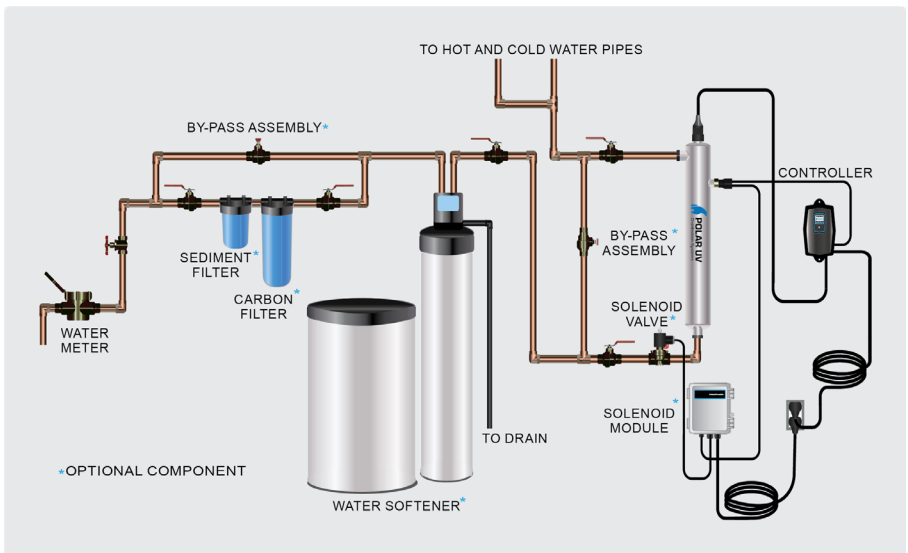

Figure 1. Recommended POE Installation Location
For Point of Entry (POE) systems, choose a location where the main cold water line is accessible. Install the system after other water treatment equipment (softener or filters), but before any branches (See Figure 1). For Point of Use (POU) systems, install the unit just before the faucet. POLAR UV recommends that a 5 micron filter be installed **before** the UV system for a final polishing step before the water is disinfected.
Step 10: Mount the controller to the wall so it is above or beside the reactor to ensure that no moisture can deposit on any of the connections (see Figure 1). Always mount the controller vertically. For monitored systems, insert the sensor connector into the IEP port located on the right side of the controller (Figure 6). For the sensor to be recognized by the controller, the controller power must be plugged in last. **Do not plug the controller power cord in before the last step.**